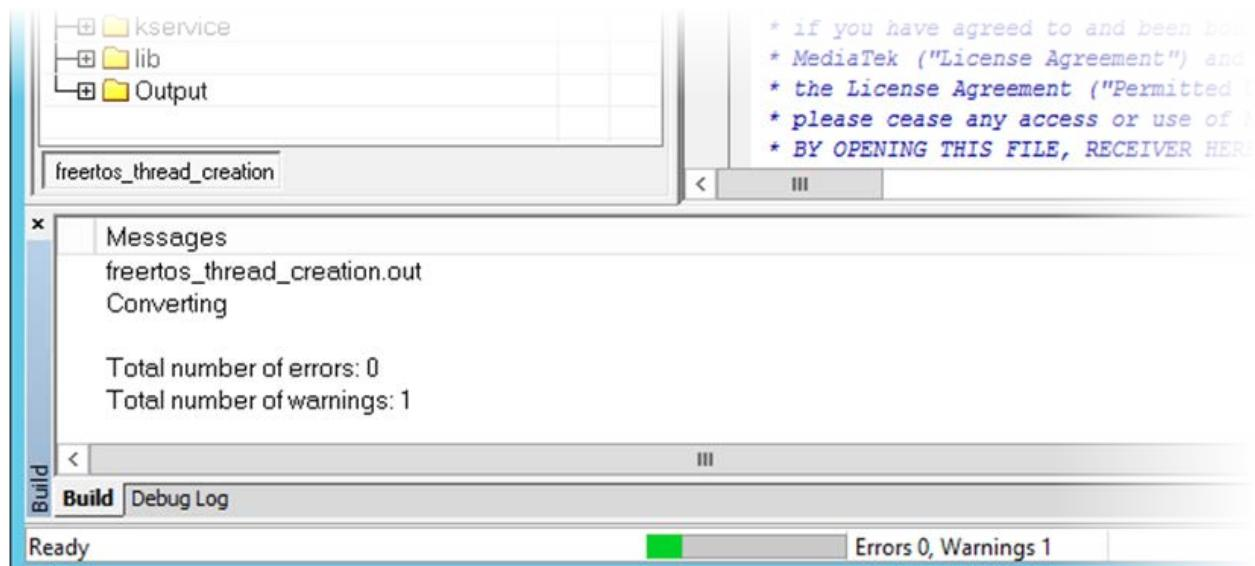

Figure 66. Project build result on IAR Embedded Workbench IDE
- 4) When the build operation is complete, the **Build output** window is updated with the result, as shown in Figure 66.